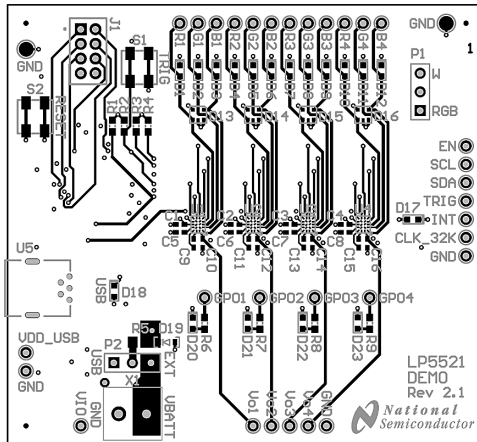

Figure 6. LP5521 Evaluation Board Layer 1 (Top, Signal)
1. Top, component side, signal (Figure 6)